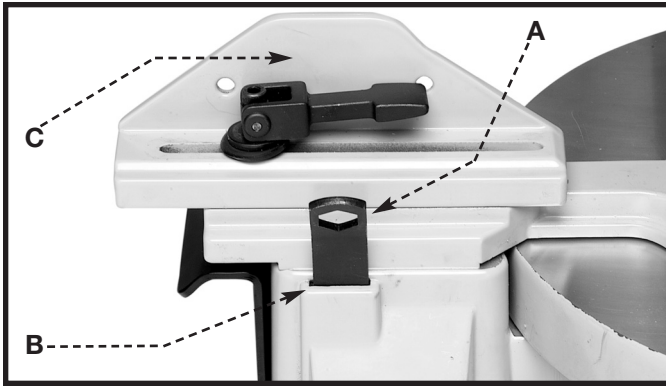

Fig. 47
You can store the blade changing wrench (A) Fig. 47 in the slot (B) behind the fence (C).